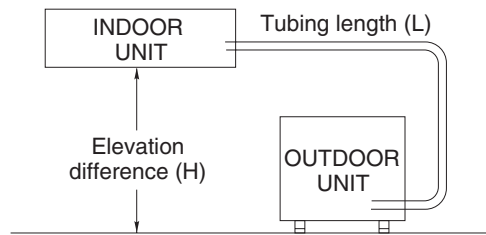

Fig. 3a
- install the unit within the maximum elevation difference (H) above or below the outdoor unit and within a total tubing length (L) from the outdoor unit as detailed in Table 3 and Fig. 3a.